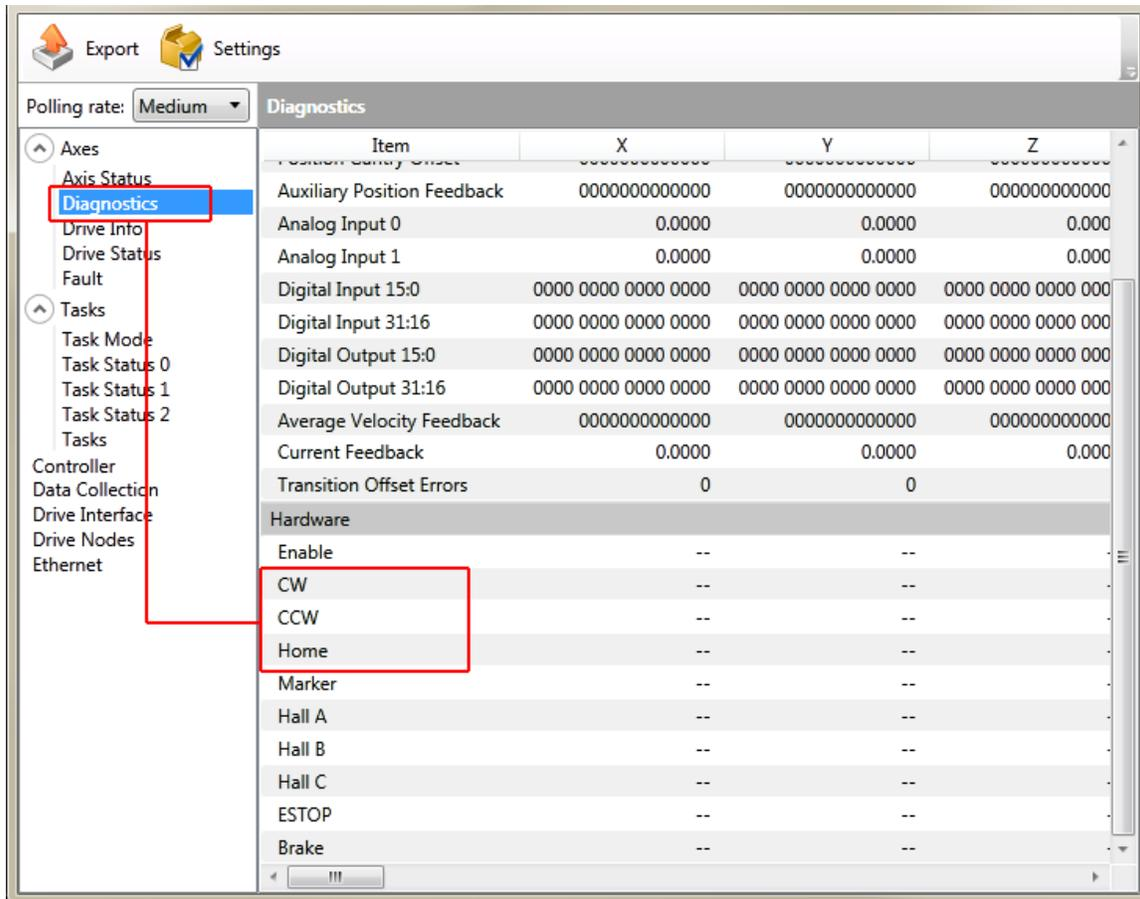

Figure 2-24: End of Travel and Home Limit Input Diagnostic Display
End of Travel (EOT) limits are required to define the end of the physical travel on linear axes. Positive or clockwise motion is stopped by the clockwise (CW) end of travel limit input. Negative or counterclockwise motion is stopped by the counterclockwise (CCW) end of travel limit input. The Home Limit switch can be parameter configured for use during the home cycle, however, the CW or CCW EOT limit is typically used instead. All of the end-of-travel limit inputs accept 0-5 VDC level signals. Limit directions are relative to the encoder polarity in the diagnostics display (refer to Figure 2-24).
If the EOT limits are reversed, you will be able to move further into a limit but be unable to move out. To correct this, swap the connections to the CW and CCW inputs at the Feedback connector or swap the CW and CCW limit functionality in the software using the EndOfTravelLimitSetup parameter. View the logic level of the EOT limit inputs in the Diagnostics display (shown in Figure 2-24).